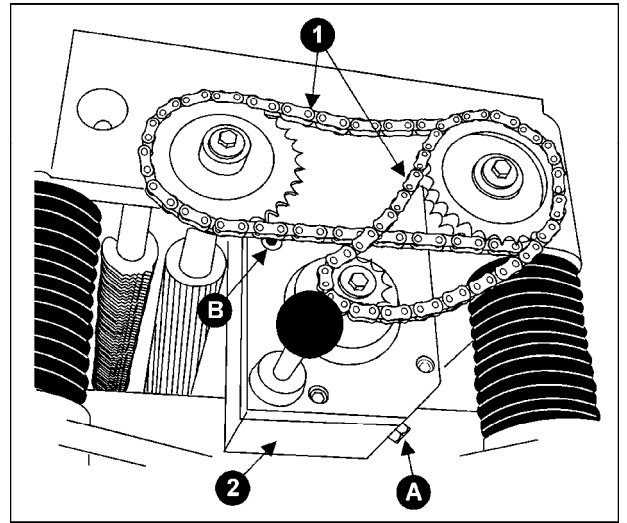

Fig. 30
1. Remove the drain plug (A, Fig. 30), and filler cap (B, Fig. 30). Drain dirty oil thoroughly.
2. Tighten the drain plug (A, Fig. 30).
3. Fill with clean lubricant through hole (B, Fig. 30).
4. Tighten filler cap (B, Fig. 30).